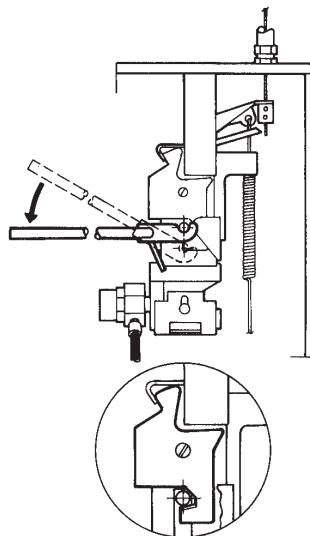

FIGURE 32
- 11. Using long handle cocking lever, Part No. 14995, or wrench on short handle cocking lever nut, Part No. 435603, pull down to raise cocking pin until the trip lever indented surface moves underneath the pin and locks the pin in the up position. See Figure 32.